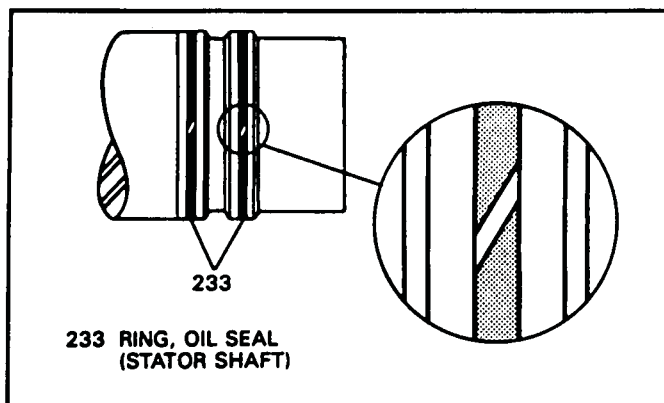

Figure 176
2. If you are using scarf cut seal rings ensure that they are installed proper as shown in Figure 176.